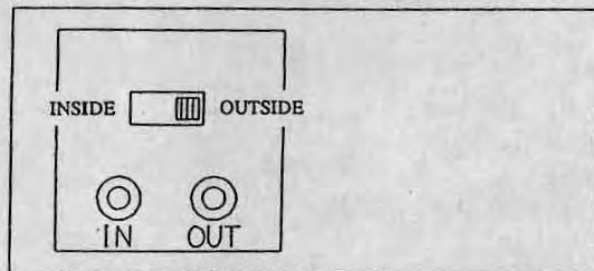

Fig. 11
- (2) Place the slide switch of the old cabinet in the "EXT" position as shown in Fig. 11.